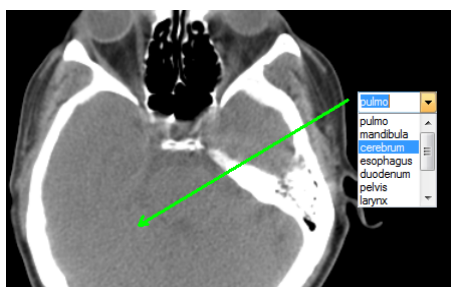

Figure 175 - Editing a label using recently used labels
2. An edit box is then displayed near the measurement (see Figure 175). To speed up the entry of the most frequently used labels, a combo box is available containing up to 20 of the most recently used labels (sorted chronologically) for each measurement type. You can select any of these recently used labels or edit one to create a new label.